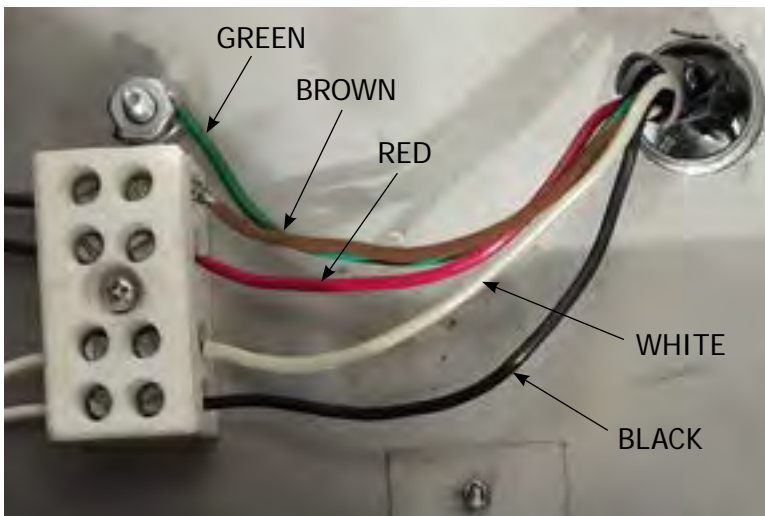

Figure 18: Power vent cable installed
4. Install the ground wire (GREEN) onto the stud above the terminal block and clamp it down between the two nuts. See Figure 18 for reference.
5. Insert the RED and BROWN pressure switch leads into the top two slots in the termination block using a small flathead screwdriver to secure. See Figure 18.
6. Insert the BLACK and WHITE blower motor leads into the bottom two slots in the termination block, using a small flathead screwdriver to secure. See Figure 18.